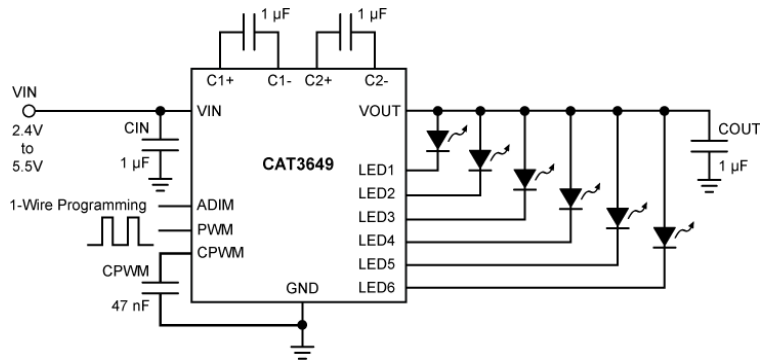

Figure 1. Typical Application Circuit
1. Typical application circuit with external components is shown in Figure 1.